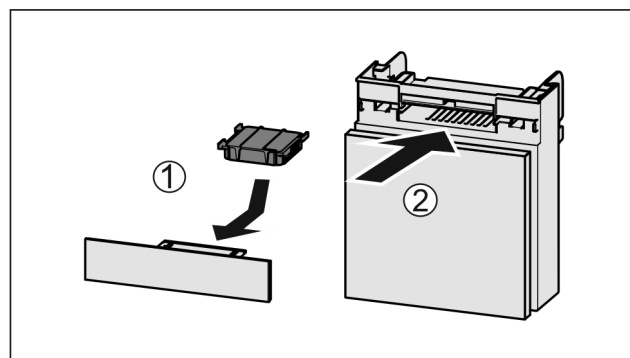

Fig. 102
- Insert the carbon filter as shown in the diagram Fig. 102 (1).
- Push the compartment in Fig. 102 (2).